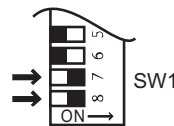

Fig. 5
12. Set the Infinity to 'Forced High' combustion by setting both No. 7 and No. 8 dip switches of the bottom (SW1) set to 'ON'. (Fig.5). **Ensure maximum water flow !**